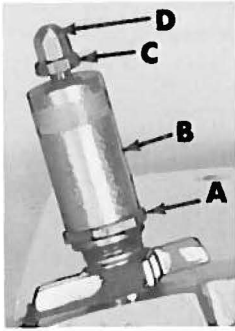

Fig. 3
Sufficient pressure to feed work uniformly should be maintained. Should it be necessary to increase or decrease amount of pressure on presser foot, loosen lock nut (A, Fig. 3) and turn the adjusting screw (B). Adjusting screw has a right hand thread so tightening increases the pressure, loosening decreases pressure. When pressure adjusting screw (B) has been properly set, tighten lock nut (A) against adjusting screw (B). With presser foot resting on the throat plate, position locking nut (C) so that its under surface is approximately 1/32 to 1/16 inch (.79 to 1.59 mm) from the top surface of adjusting screw (B). Set the cap (D) against the locking nut (C).